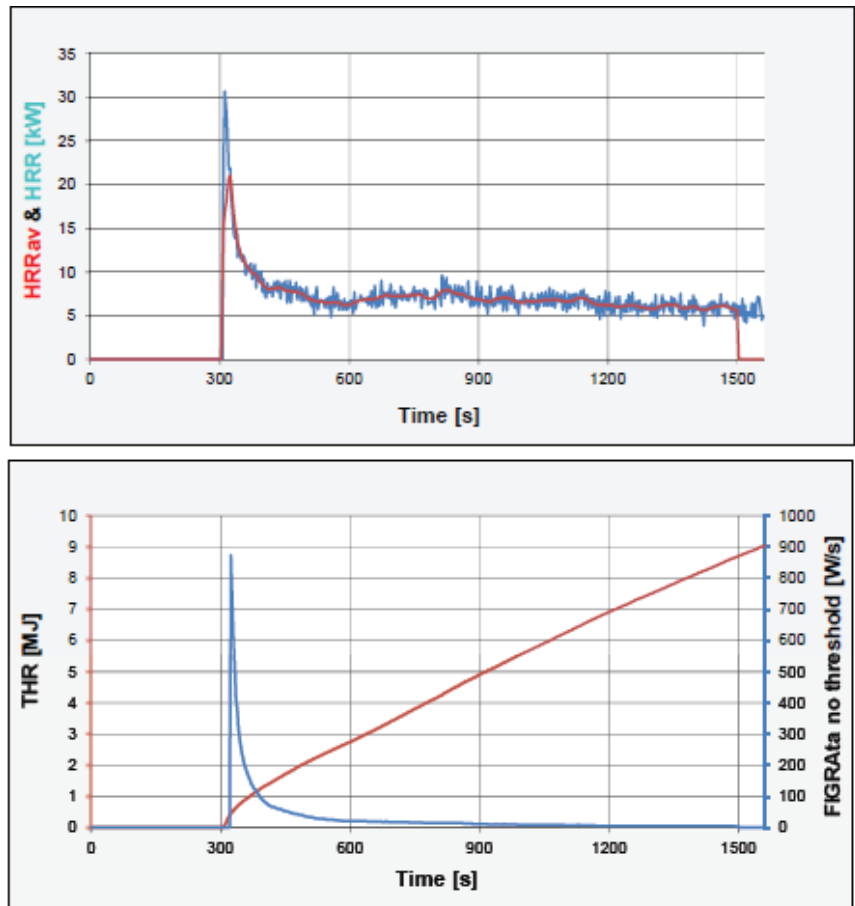

Figure 2: Example of the result of a class E PIR product tested according to EN13823 (SBI) (source MFPA Stuttgart, test report)
**Figure 2** shows an example for a typical heat release curve of a class E PIR foam in the SBI test. After a short peak, the heat release ceases and the THR value for many products would allow even a classification up to class B. In some cases, for PIR products a class B classification can be reached in the SBI test.